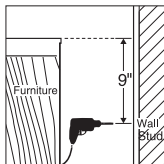

Figure 3
- Using the brackets marked "wall" make marks on the wall studs for pilot holes about 9" below the item's top. Drill pilot holes with a 1/8" drill bit. (Fig. 3)